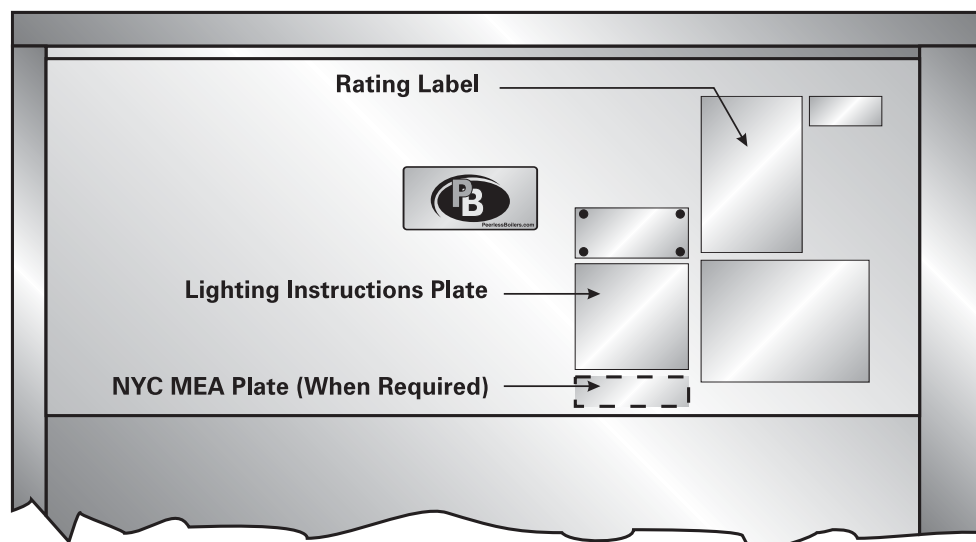

Figure 6.1: Location of Rating, Agency and Instruction Plates on Upper Right End Panel
3. Place these plates as shown in Figure 6.1.